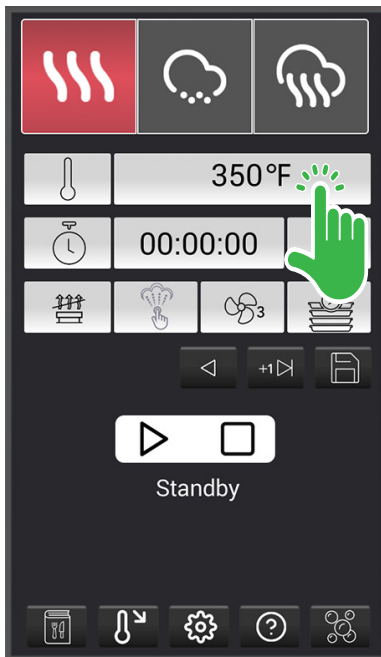
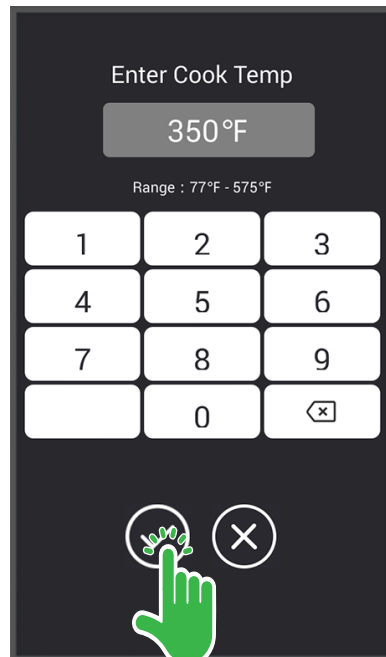

Fig. 10
Fig. 11
1. From the **Home Screen** (Fig. 10), touch the desired cooking mode.
2. Touch the Temperature Setting Display (Fig. 10) and enter the desired temperature on the **Temperature Adjustment Screen** (Fig. 11). Touch OK.